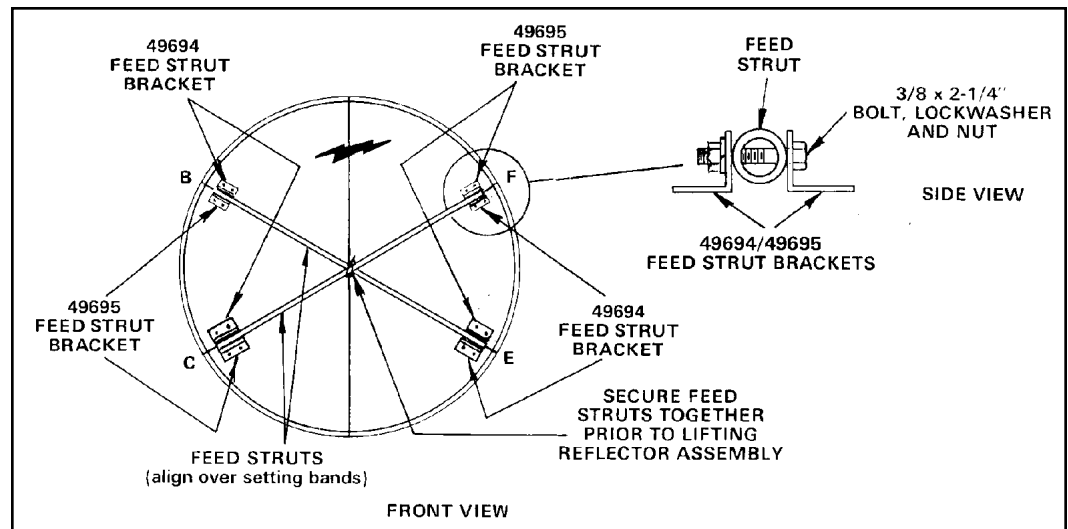

Figure 32
- Step 1** Installer underneath reflector should attach four of each feed strut brackets (P/N 49694/49695) as shown in Figure 32.
- Secure feed struts together after attachment to feed strut brackets as shown in Figure 32